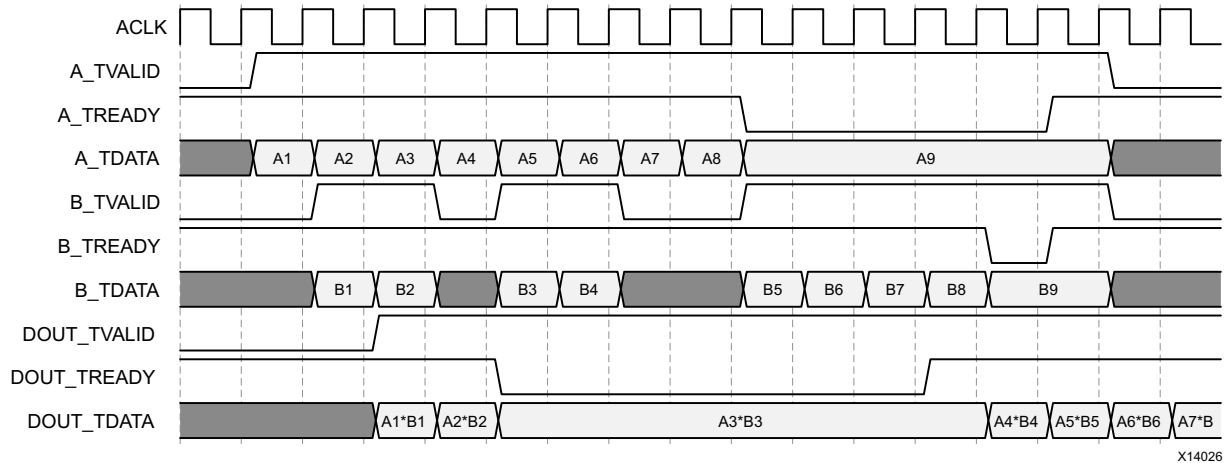

Figure 3-6: **Blocking Mode**
The three inputs are tied in the sense that each must receive validated data before an operation is prompted. Therefore, there is an additional Blocking mechanism, where at least one input channel does not receive validated data while others do. In this case, the validated data is stored in the input buffer of the channel. After a few cycles of this scenario, the buffer of the channel receiving data fills and TREADY for that channel is deasserted until the starved channel receives some data. Figure 3-6 shows both Blocking behavior and back-pressure. The first data on channel A is paired with the first data on channel B, the second with the second and so on. This demonstrates the Blocking concept. The diagram further shows how data output is delayed not only by latency, but also by the handshake signal DOUT\_TREADY. This is back-pressure' Sustained back-pressure on the output along with data availability on the inputs eventually lead to a saturation of the core buffers, leading the core to signal that it can no longer accept further input by deasserting the input channel TREADY signals. The minimum latency in this example is two cycles, but it should be noted that in Blocking operation latency is not a useful concept. Instead, as the diagram
**IMPORTANT:** The core buffers have a greater capacity than implied by Figure 3-6.
**Note:** Figure 3-6 illustrates Blocking behavior and handshake protocol. Latencies implied by the diagram might not be accurate.